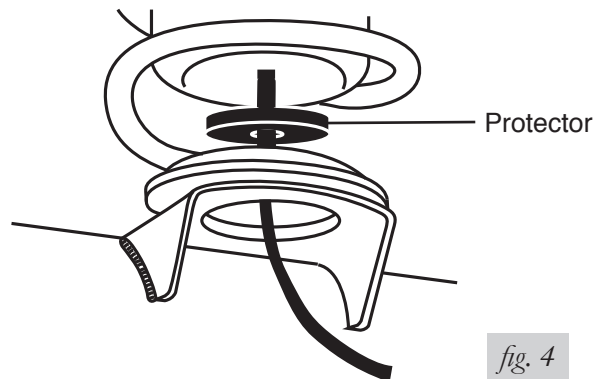

fig. 2
1. Remove the plastic cap from the barbed stem on the end of the air spring. Exhaust the air from the air spring by rolling it up toward the barbed stem. Replace the cap on the stem to hold the flat shape (Fig. 2).